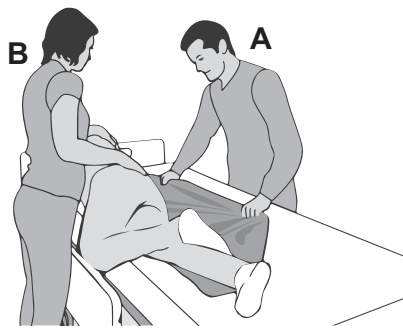

Figure 6
8. (Caregiver A) Unravel the sliding aid from under the patient to make sure that it is placed under the whole patient and straighten it out. **(See Figure 6)**